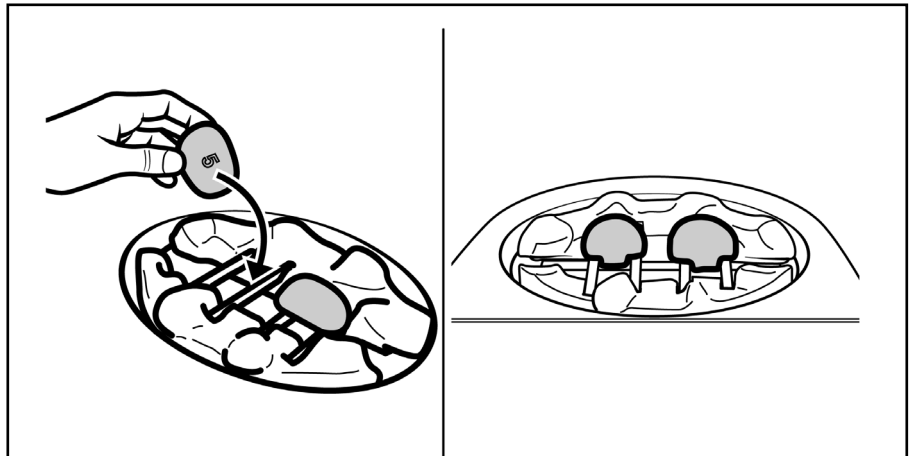

Figure 8. Pebble number '5' location
4. There are two pebbles numbered '5'. They have a central location peg on the underside. Locate the first pebble '5' centrally between the left hand ceramic support rods (See figure 8). Locate the second pebble '5' centrally between the right hand ceramic support rods (See figure 8). They will now be positioned directly above the burner ports